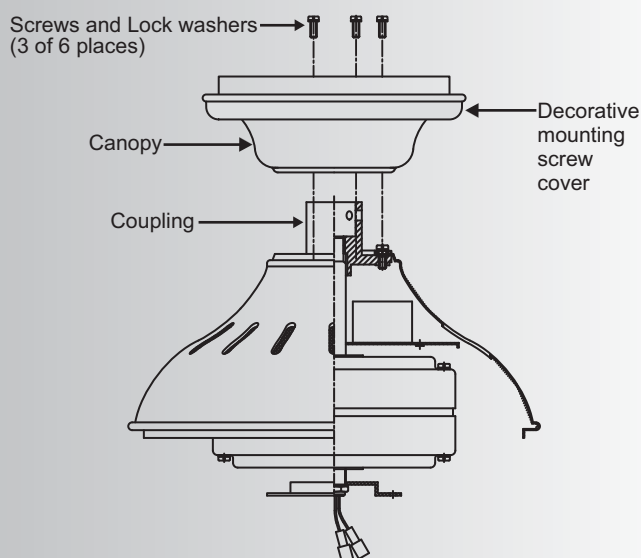
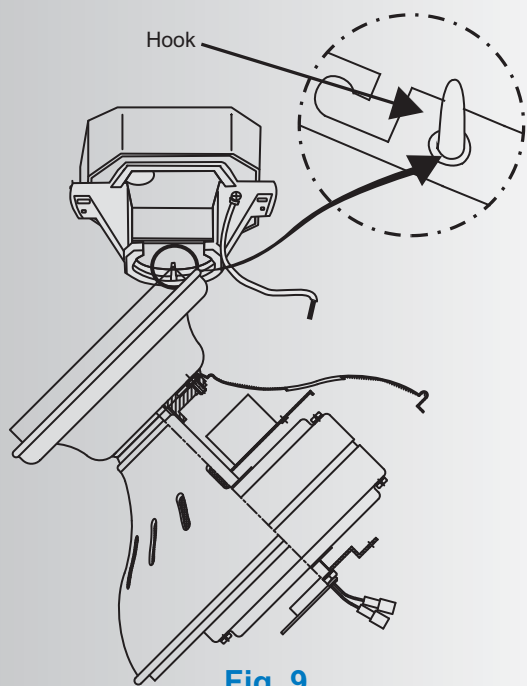

Fig. 8
Fig. 9
Step 1. Remove three of the six screws and lock washers (every other one) from the collar on top of the motor assembly. Place the ceiling fan canopy over the collar and align the mounting holes with the holes in the collar. Attach the canopy with the three screws and lock washers previously removed. (Fig. 8)
Step 2. Push the decorative mounting screw cover down and off the canopy letting it rest on top of the motor housing (Fig. 8) and hang the fan on the mounting bracket by inserting the hook on the inside edge of the mounting bracket through one of the screw holes in the ceiling canopy. (Fig. 9) This will allow you to have both hands free to make the wiring connections.